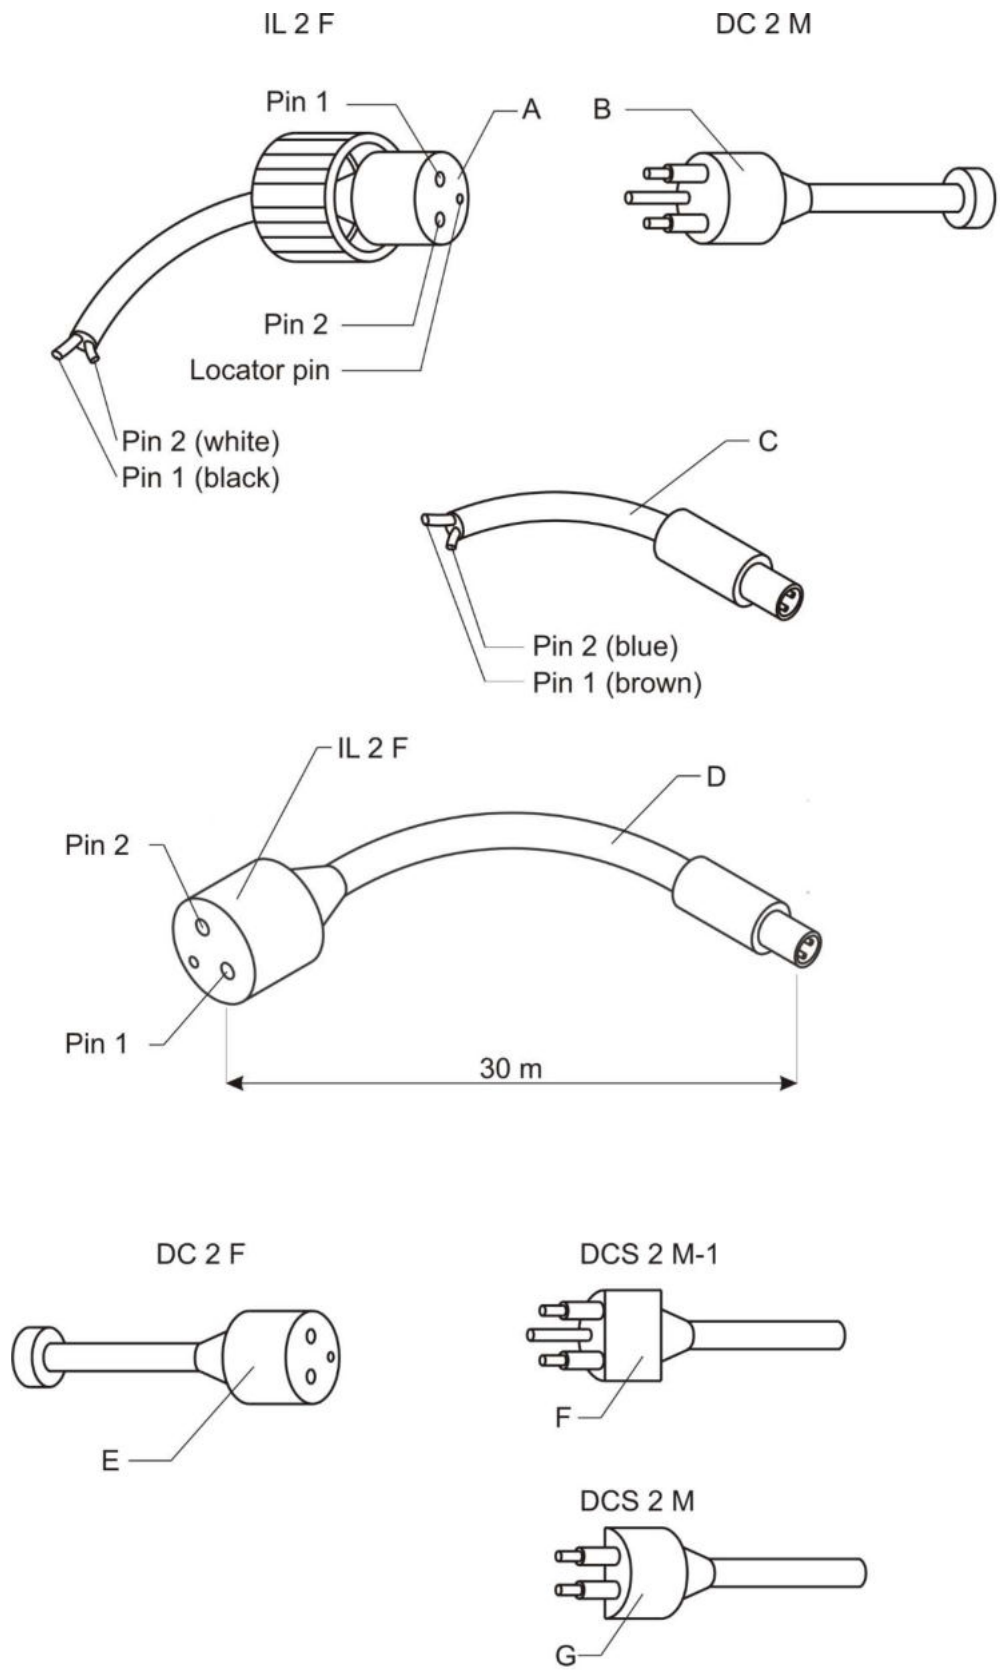
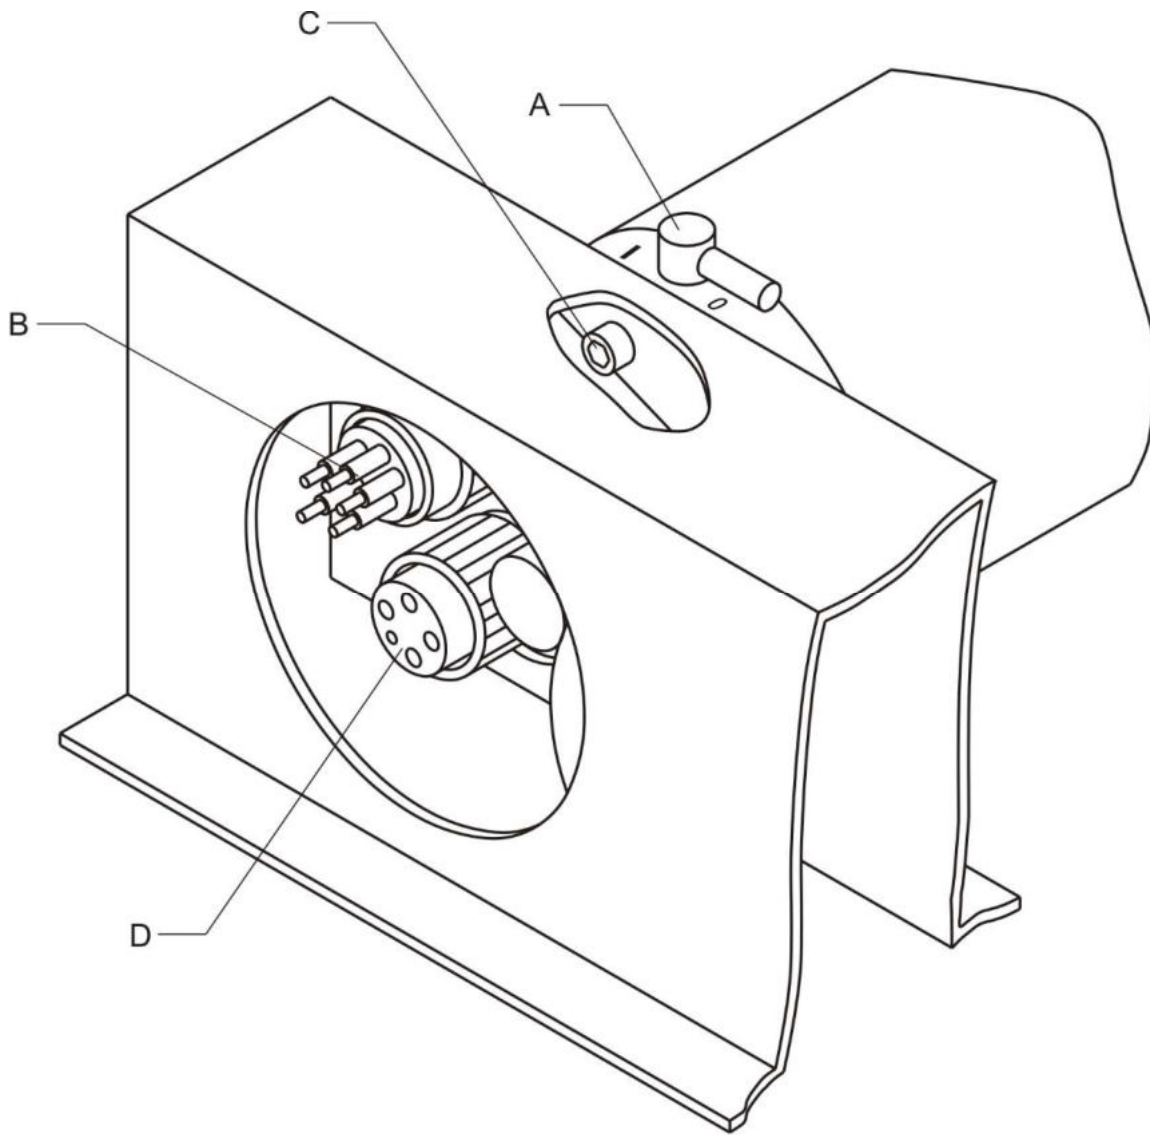
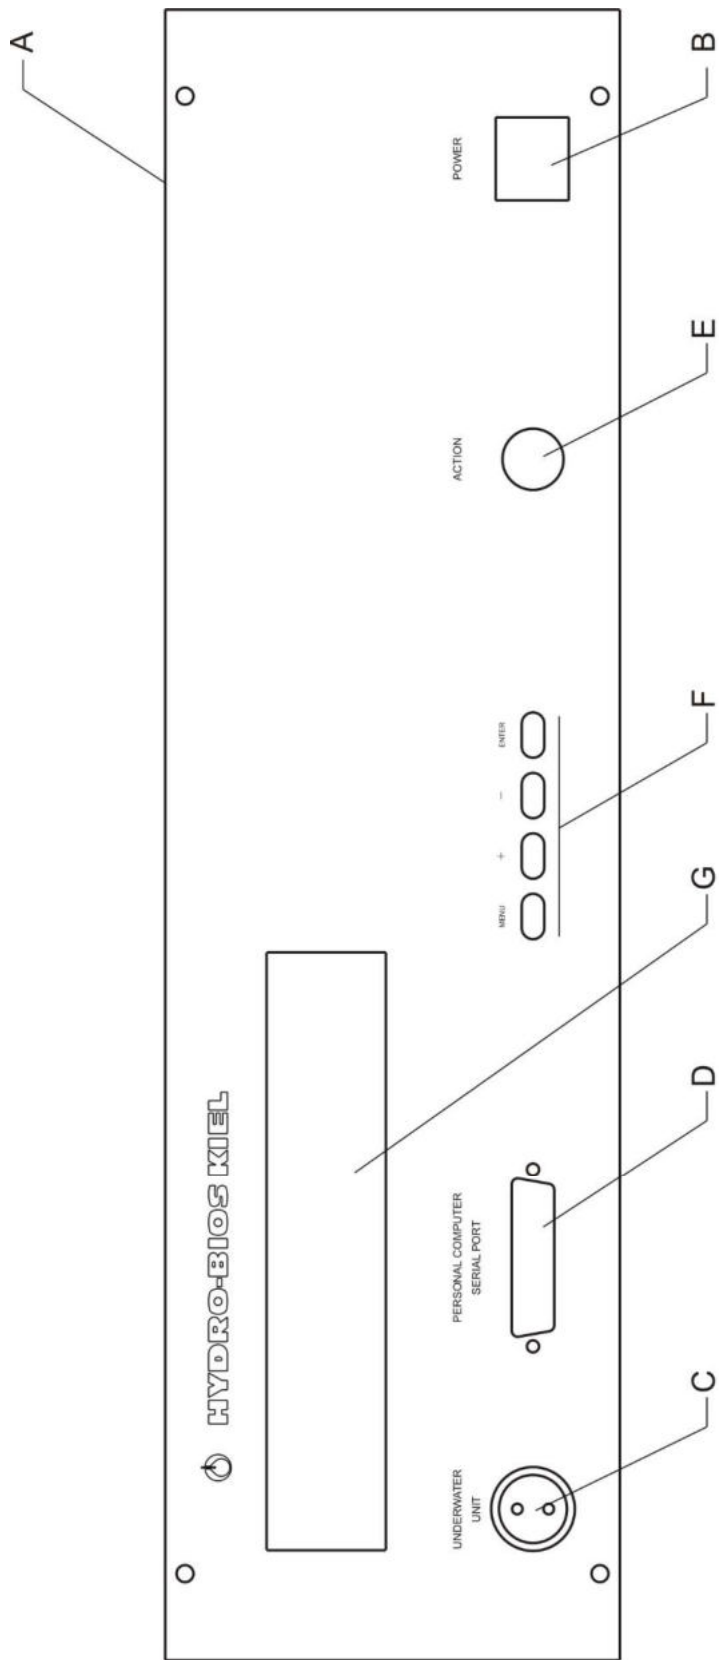

Fig 1
Fig 2
Fig. 4
5. When the Underwater Unit is back on board switch off Motor Unit (Fig. 2 A) and Deck Command Unit (Fig. 4 B).
1. Switch the lever switch at the Motor Unit into position **O** (Fig. 2 A).
2. Disconnect the cables for the Electronic Flowmeters from the connector SUBCONN BH 4 F (Fig. 2 D).
3. Unscrew the 3 hexagon socket screws M 6 which are located inside the gear box (Fig. 2 C).
1. Connect the test run cable to the dismantled Motor Unit (with Battery Housing connected) (Fig. 1 D, Fig. 2 B).
2. Connect the test run cable to the Deck Command Unit (Fig. 4 C).
3. Switch on the Deck Command Unit, the main switch (Fig. 4 B) is illuminated, the display indicates: **UNDERWATER UNIT: NO DATA**
4. Switch lever switch at the Motor Unit into position I (Fig. 2 A), the display indicates the MAIN SCREEN (see DECK COMMAND UNIT, page 10).
9. The Motor Unit is synchronized and ready for mounting. The display indicates **NET 0**. Switch lever switch at the Motor Unit into position **O** (Fig. 2 A).
12. Remount the Motor Unit without distorting the position of the steering cylinder. Remount the 3 hexagon socket screws M 6 from the inside of the gear box (Fig. 2 C). Care for a small slackness between gearwheel of the Motor Unit and the gear wheels of the gear box.
13. Slightly grease the pins of the cables for the Electronic Flowmeters with pin lubricant and connect them to the connector SUBCONN BH 4 F at the Motor Unit (Fig. 2 D).
1. Upon switching on the Deck Command Unit, the main switch is not illuminated (Fig. 4 B), the display remains empty:
1. Carry out a FIRST TEST RUN (page 14) by using the test run cable (Fig. 1 D). In case of success the fault has to be located in the cable connection from Deck Command Unit to Underwater Unit.